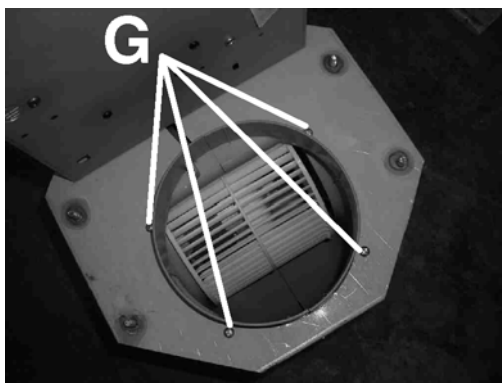

Fig. 12
9. Remove the four screws (G) which hold the motor block (Fig. 12).